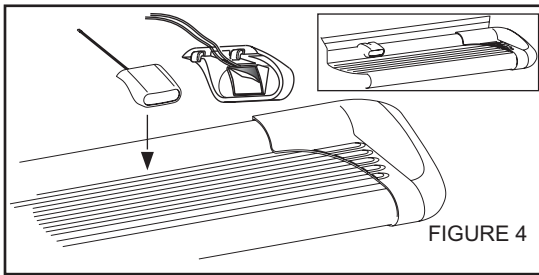
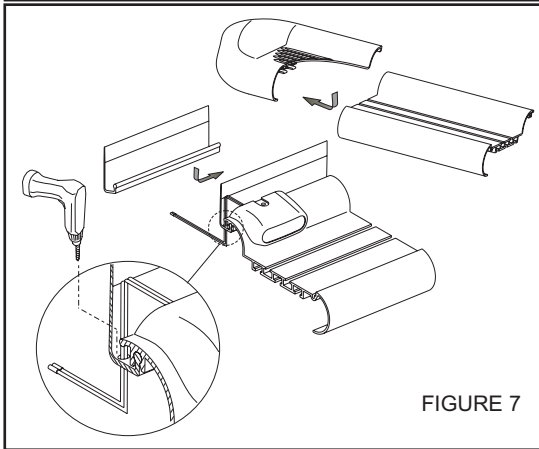

FIGURE 4
FIGURE 7
- STEP 6. For Sure Grip Running Boards, slide closure strip as shown. Set lights (if purchased) in appropriate location. Attach to Sure Grip Running Board as shown. **SEE FIGURE 4.** Drill hole through plastic strip and run wires as shown. **SEE FIGURE 7.**